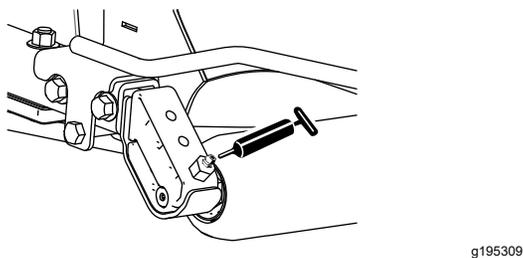

Figure 40
- 2 (per cutting unit) rear roller bearings (Figure 40)